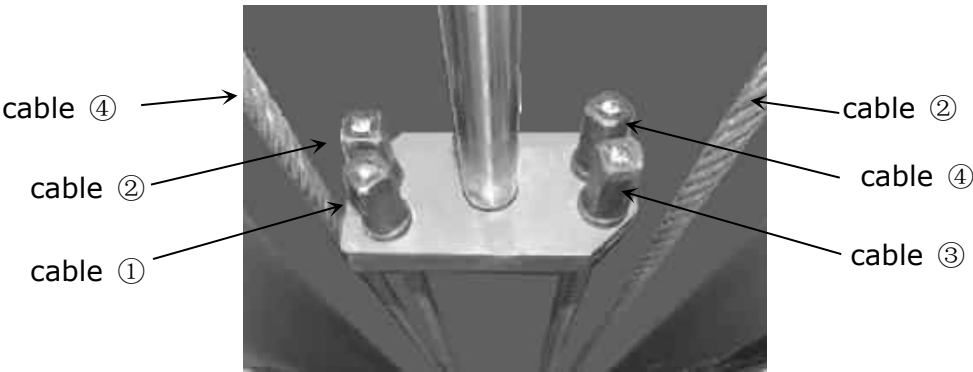

Fig. 34
3. Illustration for platform cables (See Fig. 34, 35, 36).